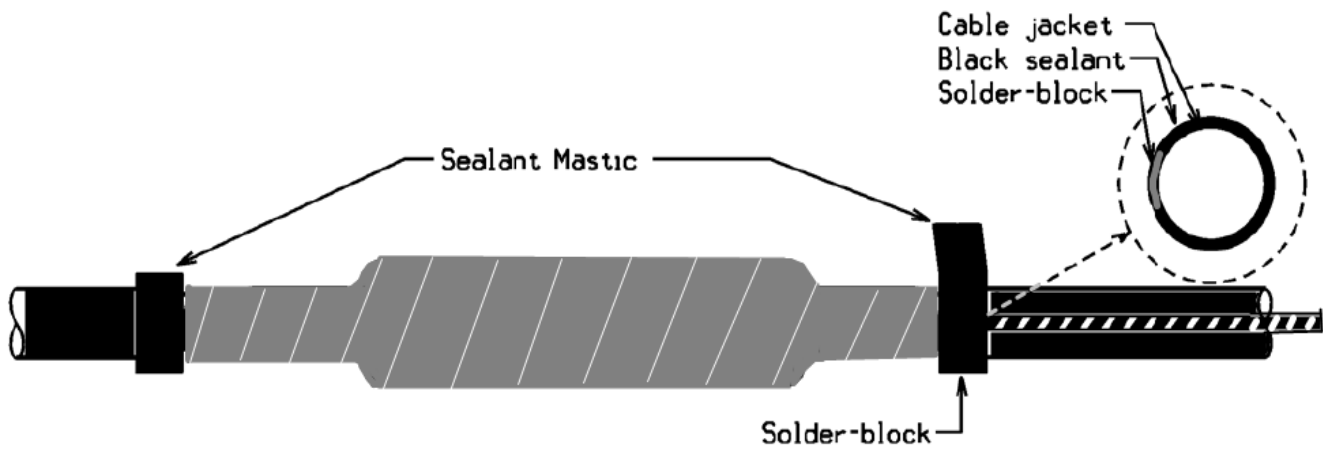

Figure 17
- Make 1 wrap of the mastic sealant around each side of the cable. On the side with the external ground, press the solder block into the black sealant and make one more wrap over the solder block and previously applied sealant. Refer to Figure 17.